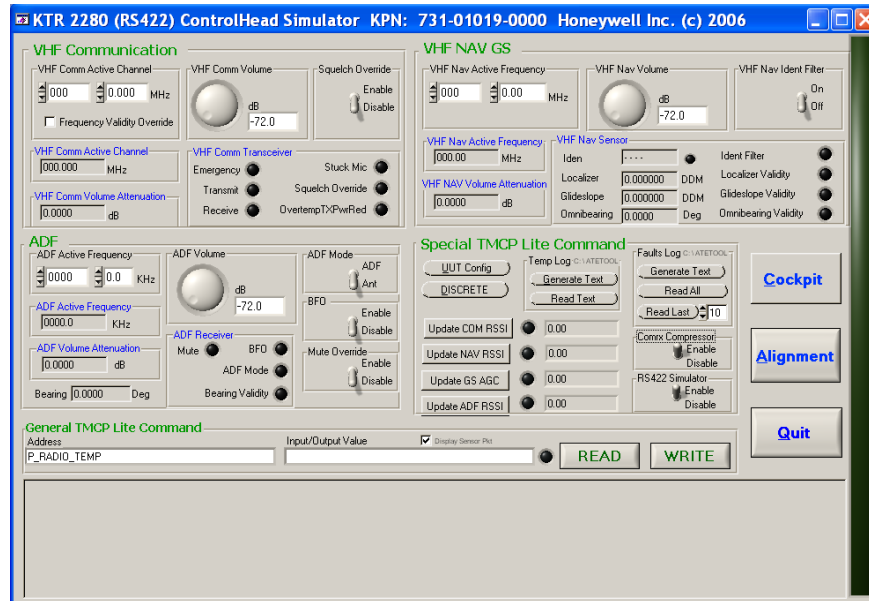

Figure 2. CONTROL HEAD SIMULATOR
Note: Use the shortcut icon created earlier, or go to the Windows start tab, >Programs, >te2ui, >te2ui.exe to open the TE2UI control head simulator as seen in figure 2.
- 1) Confirm the Control Head Simulator, like seen in Figure 2 appears.